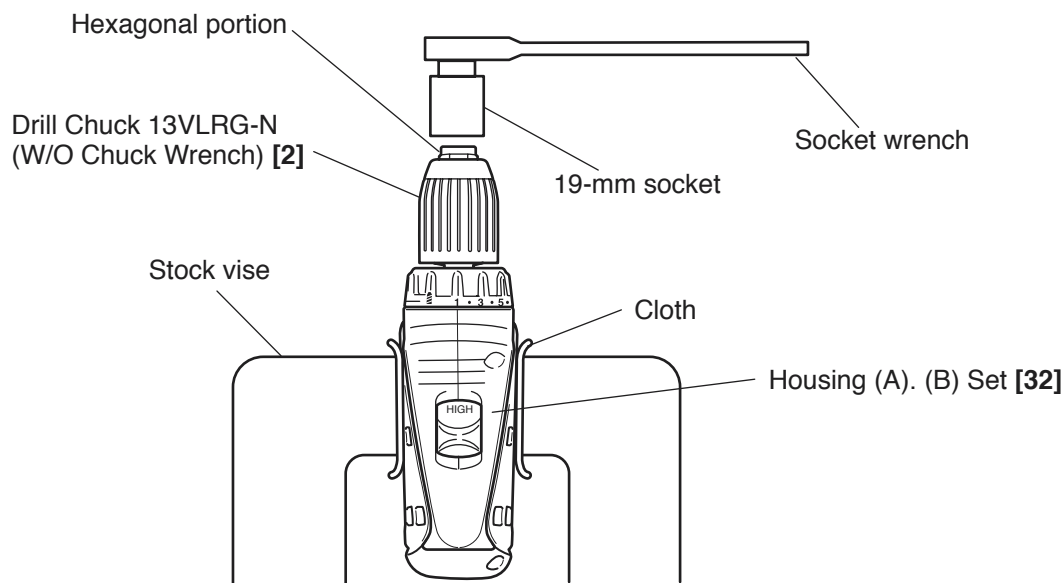

Fig. 4
(1) Removal of the Drill Chuck 13VLRG-N (W/O Chuck Wrench) **[2]** (See Fig. 4.)
- (b) Turn the hexagonal portion at the tip of the Drill Chuck 13VLRG-N (W/O Chuck Wrench) **[2]** counterclockwise with a 19-mm socket wrench to remove the Drill Chuck 13VLRG-N (W/O Chuck Wrench) **[2]** as shown in Fig. 4. If it is difficult to loosen, use a pipe extension or similar tool. Carry out steps (a) and (b) with the main body clamped in the stock vise. It is recommended to fit a piece of cloth between the main body and the vise to protect Housing (A). (B) Set **[32]** from scratching.